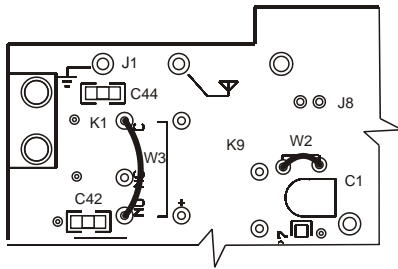

Figure 36. Installing W2 and W3 for Split Path (Separate Transmit and Receive Antenna) Operation. Do *Not* Install Relay K1.
Antenna Option 1: If you are building your transverter for use with separate (split path) transmit and receive antenna connections and separate feed lines, use discarded leads to form jumpers across W2 and W3 in the upper left quadrant as shown in Figure 36. Solder the jumpers on the bottom side of the PCB to avoid touching the relay or trimmer C1 with your iron.
- Verify that jumpers W2 and W3 are *not* installed in the spaces shown in Figure 36 (above).